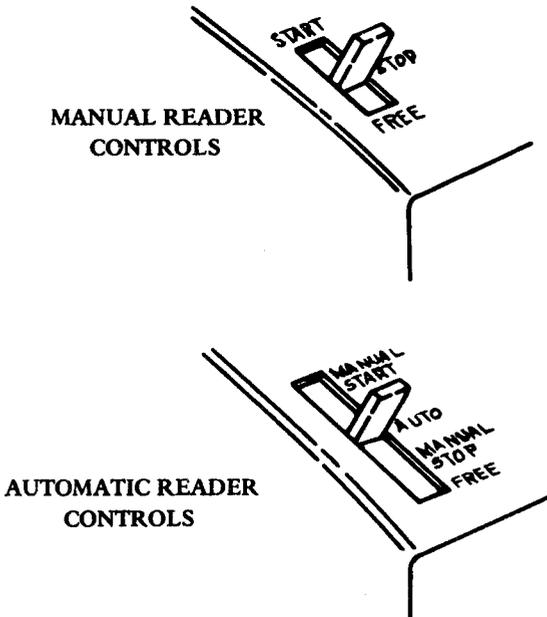

Figure 13 - Choice of Model 33 Tape Readers for 3300 Series Coded Sets
3.12 There is a choice of either a manual or an automatic/manual tape reader for the 3300 Series Coded Sets (Figure 13). The power pack that was formerly located outside of an ASR set is now located in the call control unit as shipped from the factory (Figure 5). If desired, this power pack may still be moved out of the set in order to install other special equipment. Operation and controls of these tape readers are as follows: